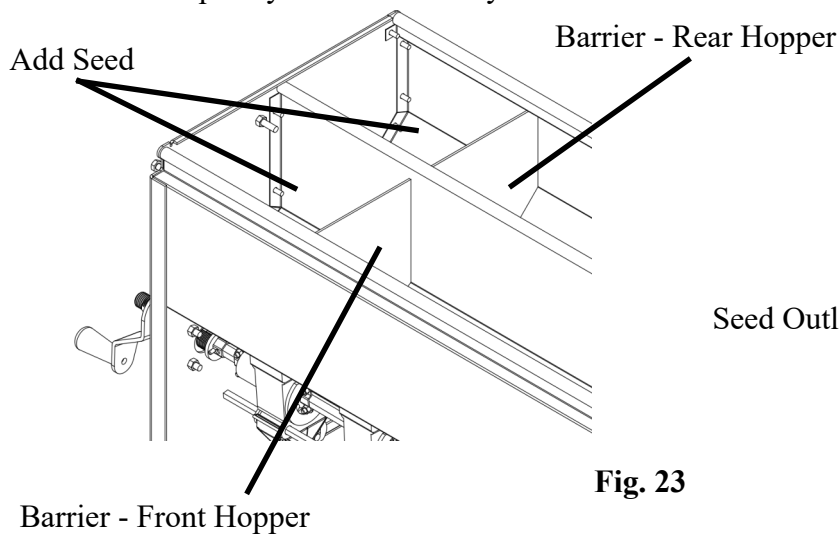

**Fig. 23**
- Section off the front and rear section of one side of the hopper by creating two barriers (front and rear hoppers are not the same size) use cardboard or similar material that is stiff but easily cut, Fig. 23.